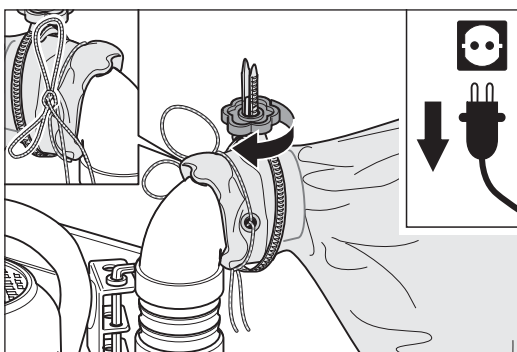

Fig. 6 Tighten the MultiClip firmly by hand and tie up the dust bag.
- 5 Tighten the MultiClip fastener firmly by hand and make sure that the dust bag is not folded underneath the MultiClip fastener. In addition, then use the string to tie up the dust bag (fig. 6).